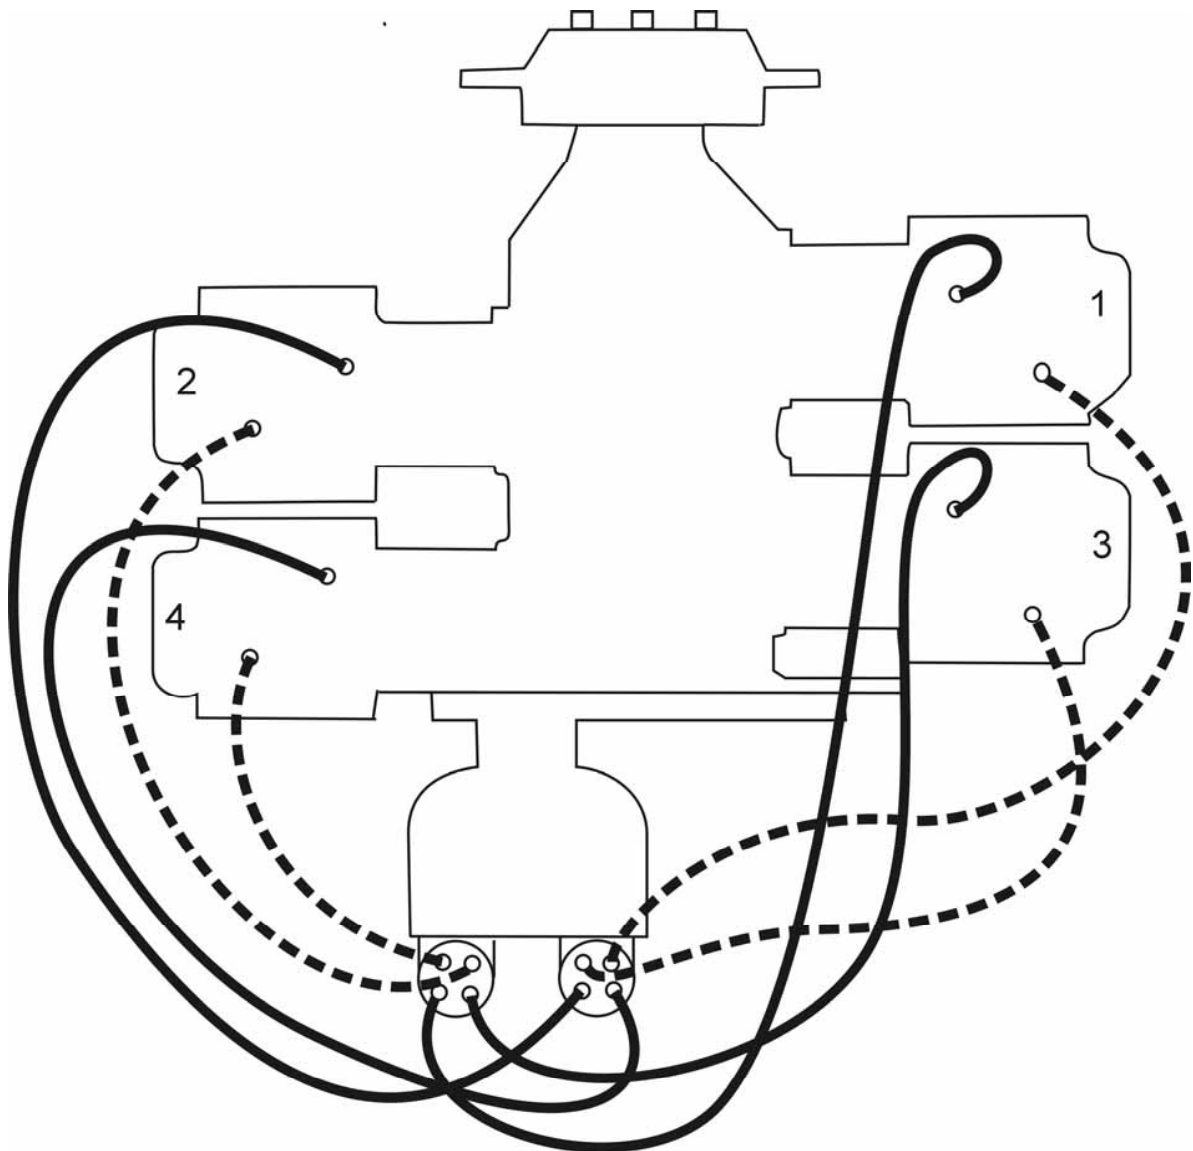

Figure 5-1. Ignition Wiring Diagram – Dual Magneto
- (7) Hold the magneto in its No. 1 firing position (tooth in window center and pointer over R or L mark on rotor) and install magneto to the engine and loosely clamp in position.
- (8) Attach red lead from the timing light to left switch adapter lead, green lead of timing light to right switch adapter lead and the black lead of the light to magneto housing.
- (9) Turn the entire magneto in direction of rotor rotation until the red timing light comes on.
- (10) Rotate the magneto in the opposite direction until the red light just goes off indicating left main breaker has opened. Then evenly tighten the magneto mounting clamps.
- (11) Back the engine up approximately 10° and then carefully “bump” the crankshaft in direction of rotation, at the same time observing the timing lights.
- (12) At the No. 1 firing position of the engine, the red light should go off indicating left main breaker opening. The right main breaker, monitored by the green light, must open within ± 2 engine degrees of the No. 1 firing position.
- (13) Repeat steps (9) thru (11) until the condition described in paragraph (12) is obtained.
- (14) Complete tightening of the magneto securing clamps by torquing to 150 in.-lbs.
- (15) Recheck timing once more and if satisfactory disconnect timing light. Remove adapter leads.
- (16) Reinstall plugs in timing inspection holes and torque 12-15 in.-lbs.
- (17) Install the harness leads as shown in Figure 5-1 to spark plug and connect switch lead to proper terminal.